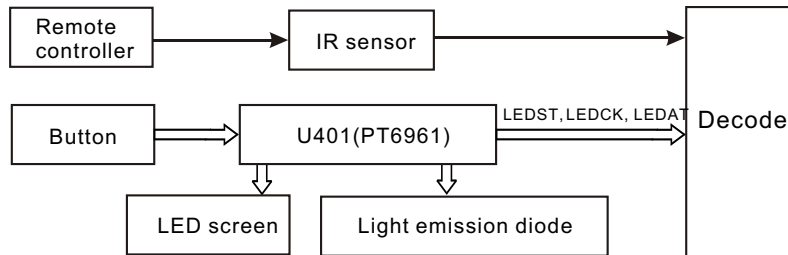

Figure 3.2.15.1 Panel control circuit block diagram
1. Panel control circuit block diagram is shown in the figure 3.2.15.1: